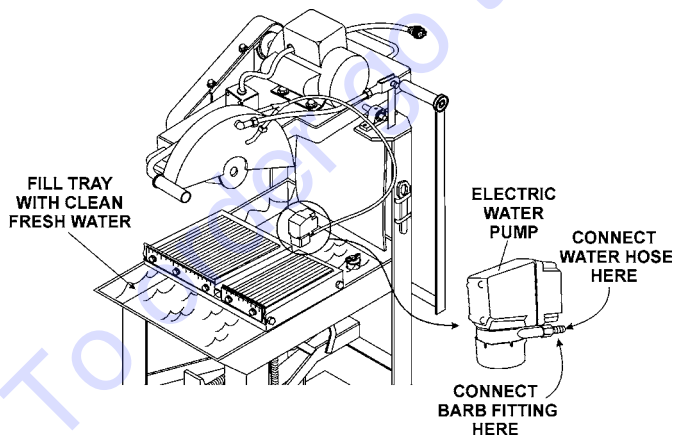

Figure 5. Water Tray/Water Pump
2. Connect the barb fitting to the water pump. Attach the clear plastic water hose (Figure 5) coming from the blade guard to the water pump.